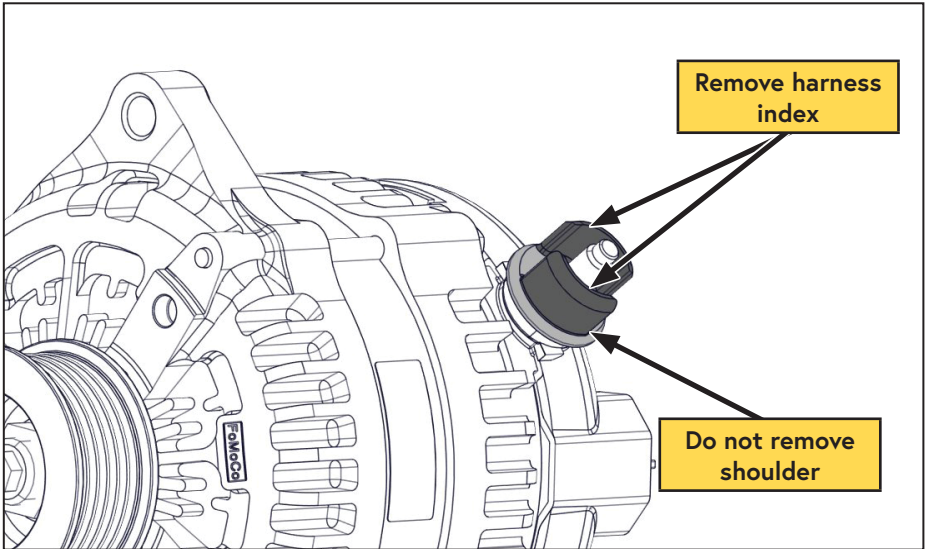

Figure 13 — Modify alternator
- Using a die grinder or similar tool, remove the harness index from the the post (leave the shoulder in place as it is required to retain the rubber boot on the harness (Figure 13).